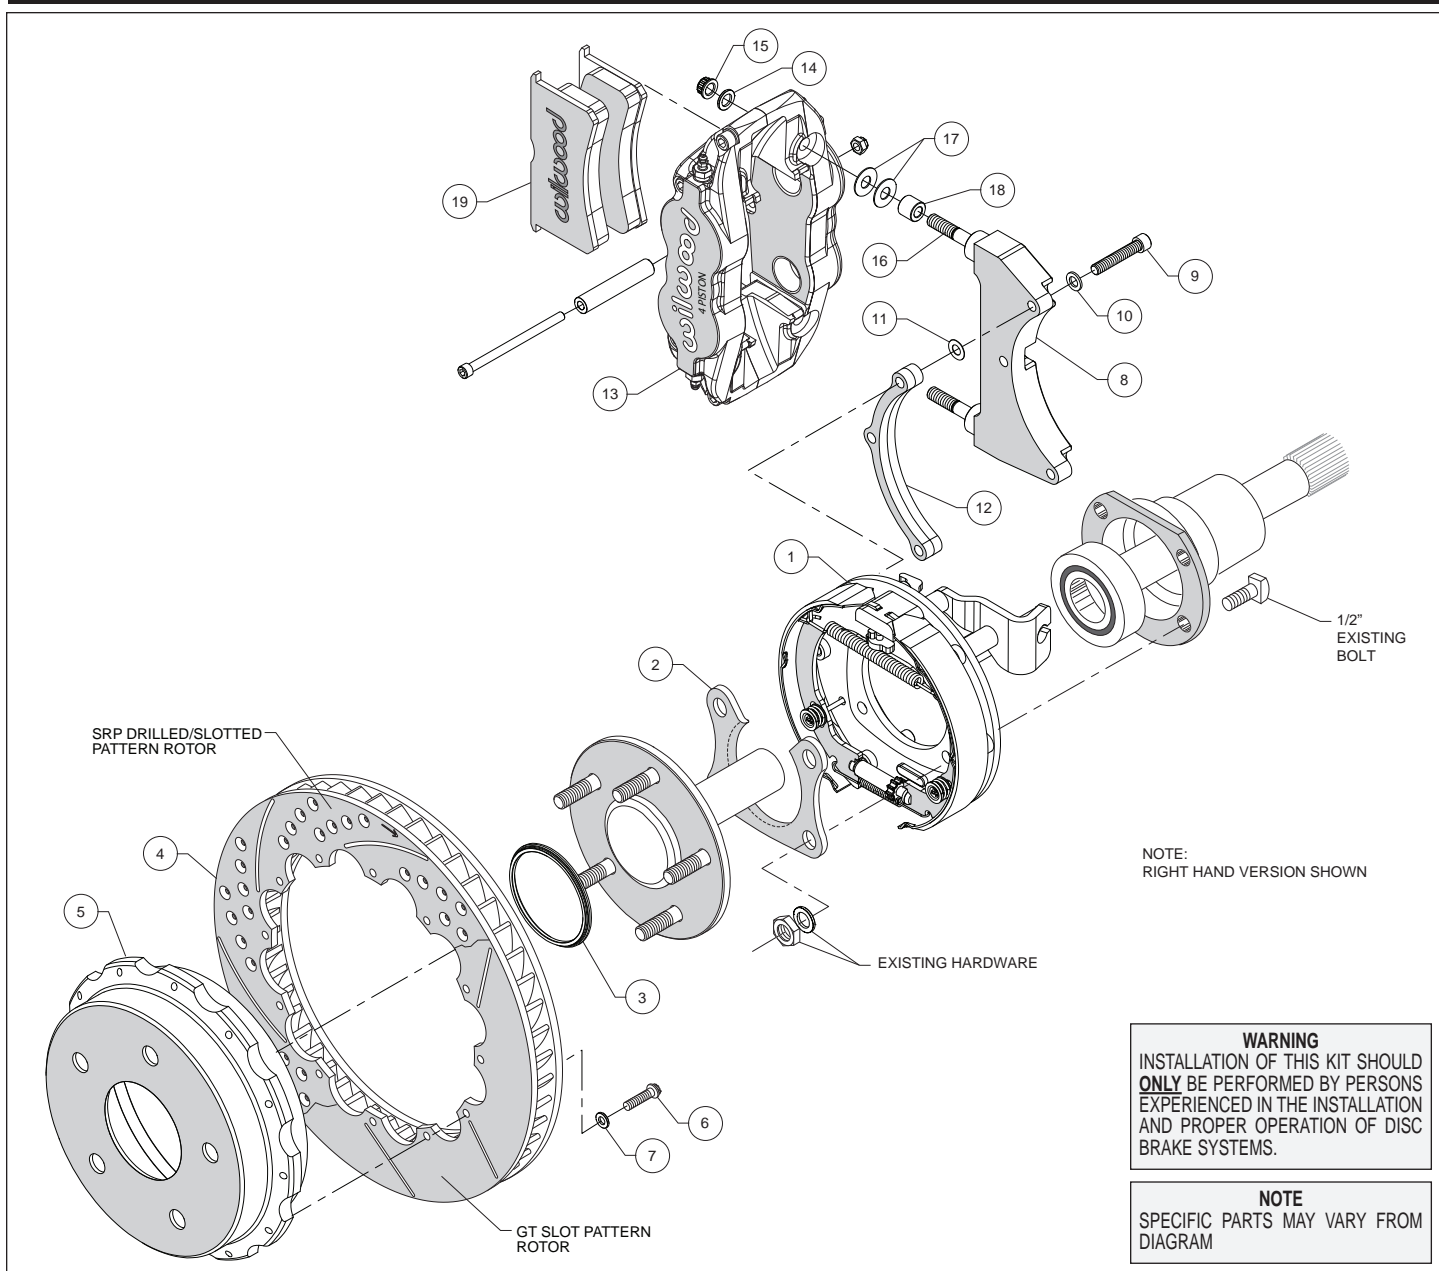
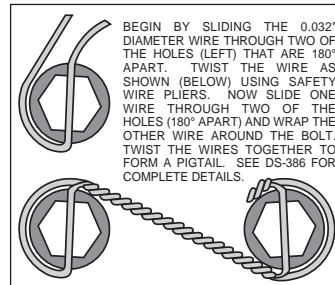

Figure 1. Typical Installation Configuration
Figure 5. Safety Wire Diagram
**Assembly Instructions** (numbers in parenthesis refer to the parts list, and Figure 1 on the preceding pages): **CAUTION:** All mounting bolts must fully engage clinch nuts. Be sure to check that all bolts are either flush or protruding through flanged side of clinch nut after shimming.
- Orient the bracket assembly (1) as shown in Figure 1 and Photo 1 and slide it onto the axle. Insert the axle and bracket into the axle housing. Ensure that the bracket assembly backing plate fits flush against the axle housing flange.
- Install the bearing retainer (2) with the opening pointing upward and the lip facing inward (toward the bearing), as shown in Figures 1 and 4, and Photo 2. Secure retainer and bracket assembly to the axle housing flange using the Original Equipment Manufacturer (OEM) bolts, washers, and nuts, Figure 1. Apply red *Loctite*® 271 to the OEM bolt threads and torque to OEM specifications.
•**NOTE:** Please reference the caution statement at the beginning of the assembly instructions. The caliper mounting bracket (8) should initially be installed with clean, dry threads on the mounting bolts. Orient the bracket as shown in Figure 1 and Photo 3, and install using bolts (9) and flat washers (10). Initially place one .015" shim washer (11) on each bolt between the bracket (8) and spacer (12), Figure 1. Temporarily tighten the mounting bolts. **NOTE:** End of bolt should not exceed inside face of insert. The bracket must tighten squarely against the back side of the bracket kit assembly (1). Inspect for interference from casting irregularities, machining ridges, burrs, etc. Later, after the caliper alignment has been checked, the mount bolts will be secured using red *Loctite*®.
•Orient the rotor (4) and the hat (5) as shown in Figure 1 and Photo 3. Attach rotor to hat using bolts (6) and washers (7). Using an alternating sequence, apply red *Loctite*® 271 to the threads, and torque to 140 **in-lbs**. For an added measure of security, the bolts may be safety wired using standard 0.032 inch diameter stainless steel safety wire as shown in Figure 5. Please refer to Wilwood's data sheet DS-386 (available at [www.wilwood.com/Pdf/DataSheets/ds386.pdf](http://www.wilwood.com/Pdf/DataSheets/ds386.pdf)) for complete safety wire installation instructions.
•Slide the rotor registration adapter (3) onto the axle register on the axle flange with the smaller O.D. facing toward the rotor/hat (4/5), Photo 5. Align the hole pattern in the hat with the stud pattern on the axle flange and slide into place, Figure 1 and Photo 6. **NOTE:** The rotor/hat must fit flush against the axle flange or excessive rotor run out may result. Install three lug nuts (finger tight) to keep the rotor/hat assembly in place while continuing with the installation. **NOTE:** Some OEM and after market axles come with stud sizes larger than 0.50" diameter. Verify stud size and have a qualified machine shop drill the bolt circle of the hat/rotor to the correct stud size, if necessary.
•Lubricate the caliper mounting studs (16) with lightweight oil. Initially place two .035" thick shims (17) and spacer (18) on each stud as shown in Figure 1 and Photo 7. Mount the caliper (13) onto the bracket (8) using lock nuts (15) and washers (14), Figure 1. Temporarily tighten the lock nuts and view the rotor through the top opening of the caliper. The rotor should be centered in the caliper, Photo 8. If not, adjust by adding or subtracting shims (11) between the bracket (8) and the spacer (12). Always use the same amount of shims on each of the three mounting bolts. Once the caliper alignment is correct, remove the bracket mounting bolts (9) one at a time, apply red *Loctite*® 271 to the threads, and torque to 180 **in-lb**.